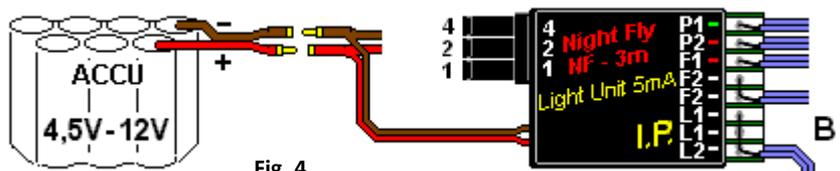

Fig. 4
Fig. 4 shows the connection of uncontrolled unit to the source. The illustration shows (B) how it is possible if necessary to connect two identical outputs F2 to achieve greater light intensity, if we don't need two flash LEDs F2, but just one. Likewise you can connect both outputs L1 in parallel to get the same light intensity as output L2. Or even to connect three outputs L together to power a single stronger landing reflector.